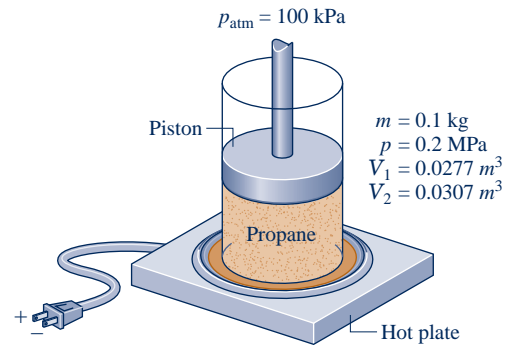

Fig. P3.56
- 3.56** As shown in Fig. P3.56, 0.1 kg of propane is contained within a piston–cylinder assembly at a constant pressure of 0.2 MPa. Energy transfer by heat occurs slowly to the propane, and the volume of the propane increases from 0.0277 m³ to 0.0307 m³. Friction between the piston and cylinder is negligible. The local atmospheric pressure and acceleration of gravity are 100 kPa and 9.81 m/s², respectively. The propane experiences no significant kinetic and potential energy effects. For the propane, determine (a) the initial and